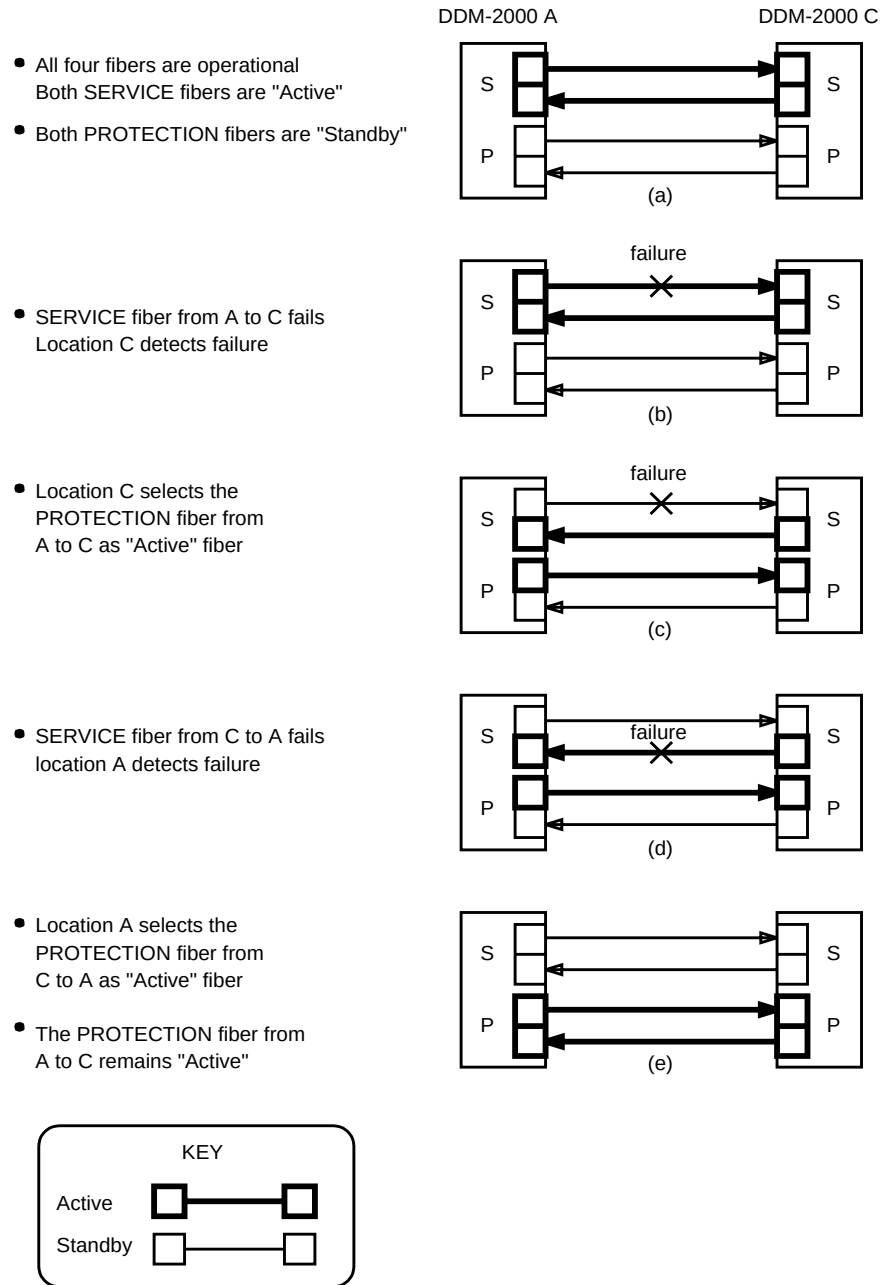

Figure 9-5. Unidirectional Line Protection Switching
Figure 9-5 illustrates examples of unidirectional and nonrevertive line protection switches. Note the squares at locations A and C. Each square represents the transmit or receive section of an OLIU. Figure 9-5(a) and Figure 9-5(b) are associated with the Service (S) OLIU and Figure 9-5(d) and Figure 9-5(e) with the Protection (P) OLIU. Four optical fibers are associated with the Service and Protection OLIUs that interconnect the OLIUs at locations A and C. The two fibers connecting the Service OLIUs are the service fibers, and the two fibers connecting the Protection OLIUs are the protection fibers. Fibers and OLIUs shown in **bold** are active and carrying service.
In Figure 9-5(a), transmitted optical signals in each direction are permanently bridged to the service and protection fibers. The same signal is transmitted on both fibers. Each service and protection fiber and its associated OLIU are monitored as a set. The fiber/OLIU set selected by the receiving location is the active set and the ACTIVE LED, which in Figure 9-5(a) is on the service OLIU circuit packs, is lit. The fiber/OLIU set not selected is the standby set, and the ACTIVE LED on its corresponding OLIU is not lighted.
Contrary to other transmission circuit packs, ACTIVE LEDs on both OLIUs may be lit at the same time on the same shelf. For example, in Figure 9-5(b) the receive fiber going to location C has been cut. Location C selects the protection fiber/OLIU set as active, resulting in the lighting of ACTIVE LEDs on both the OLIUs at location C. Location A did not switch to its protection set but continues to remain on the service set. This example illustrates the SONET standard of unidirectional APS. Since each location sends APS information to the other end, both ACTIVE LEDs on the OLIUs at location A are also lit.
After the cut service fiber is repaired, location C **will not** switch back (revert) and select the service set as its active fiber/OLIU set. This example, Figure 9-5(c), illustrates the SONET standard of nonrevertive APS.
Figure 9-5(d) and Figure 9-5(e) illustrate a second fiber failure and the resulting changes to the active OLIUs, thus showing that both protection sets could be active and carrying service.